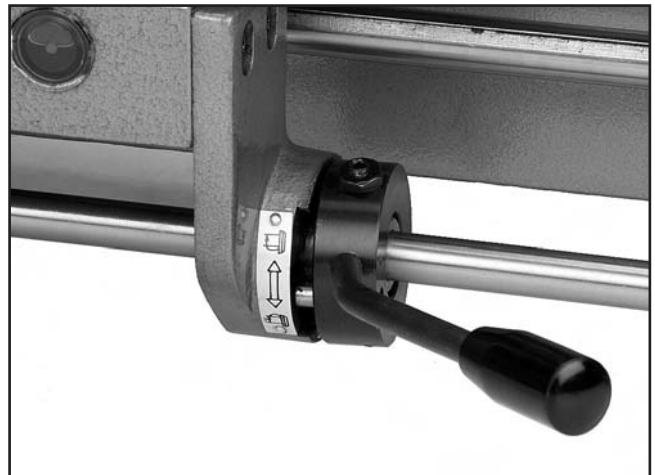

Figure 14. Spindle switch in the OFF position.
5. Make sure the spindle ON/OFF switch shown in **Figure 14** is in the center position (OFF).
4. Turn the spindle ON/OFF switch shown in **Figure 14** to the right and up for clockwise spindle rotation, and to the right and down for counterclockwise rotation.
2. Turn the spindle ON/OFF switch shown in **Figure 14** to the right and up for clockwise spindle rotation, and to the right and down for counterclockwise rotation.